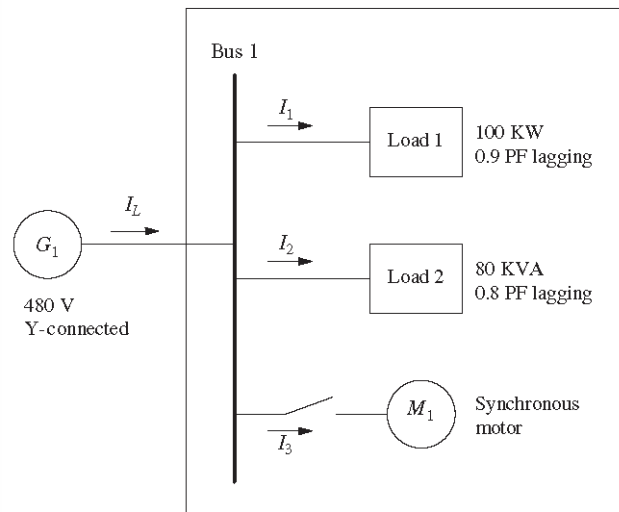
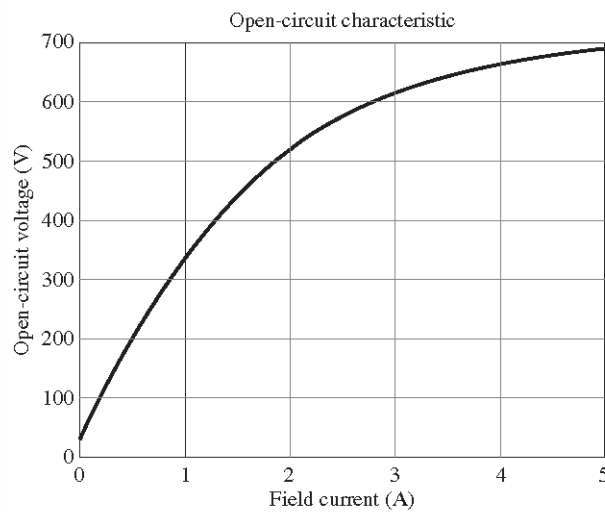

FIGURE P5-3
FIGURE P5-4
**5-12.** Figure P5-3 shows a small industrial plant supplied by an external 480 V three-phase power supply. The plant includes three main loads as shown in the figure. Answer the following questions about the plant. The synchronous motor is rated at 100 hp, 460 V, and 0.8-PF-leading. The synchronous reactance is 1.1 pu and armature resistance is 0.01 pu. The OCC for this motor is shown in Figure P5-4.